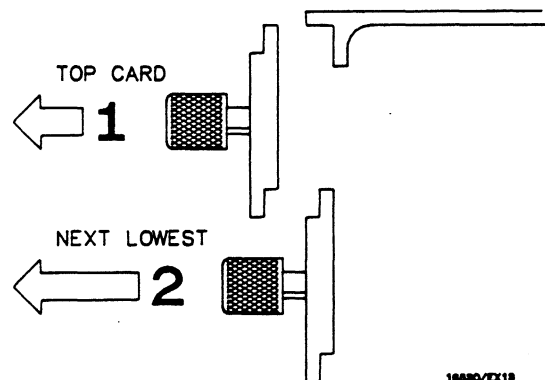

Figure 4-18. Endplate Overhang
- Starting from the top, begin pulling card(s) and filler panel(s) out half way. See figure 4-18.